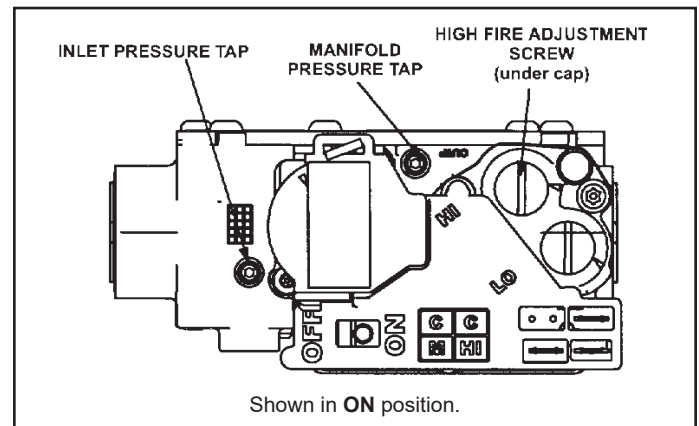

Figure 36. White Rodgers Gas Valve
See Figure 36
6. Move gas valve switch to OFF position. Do not force. See Figure 36.
7. Wait five (5) minutes to clear out any gas. If you then smell gas, **STOP!** Immediately call your gas supplier from a neighbor's phone. Follow the gas supplier's instructions. If you do not smell gas go to next step.
8. Move gas valve switch to ON position. Do not force. See Figure 36.
4. Move gas valve switch to OFF position. Do not force. See Figure 36.
An inlet post located on the gas valve provides access to the supply pressure. See Figure 36. Back out the 3/32 hex screw one turn, connect a piece of 5/16 tubing and connect to a manometer to measure supply pressure. See Table 34 for supply line pressure. Tighten hex screw after measurements have been taken.
1. Connect test gauge to manifold pressure post tap (Figure 36) on gas valve.
4. If necessary, make adjustments. Figure 36 shows location of high fire adjustment screw.